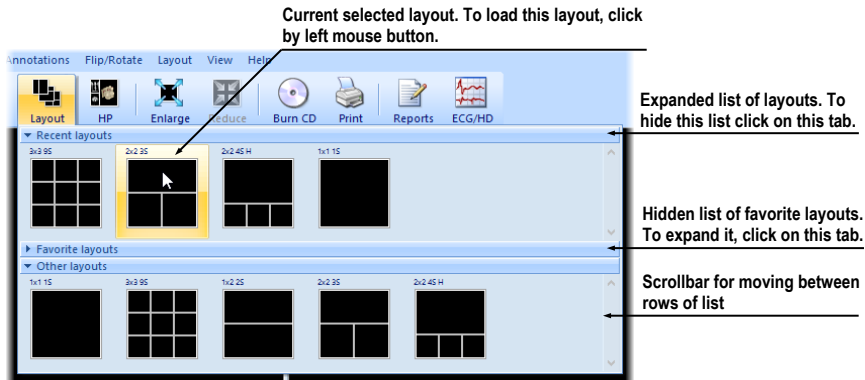

Figure 12 – Layout list
2. Select the desired layout in the displayed window (see Figure 12). Selected layout will be loaded.